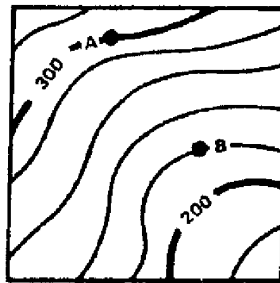

Figure C-24. Contour intervals
b. You can easily tell from the brown lines the direction of uphill or downhill because every fifth line is heavier and has a number that gives its elevation. Let's say the contour interval is 20 meters again. Now you can tell that point B. Also, if you know the distance between A and B, you can get an idea of the steepness of the slope (figure C-24).